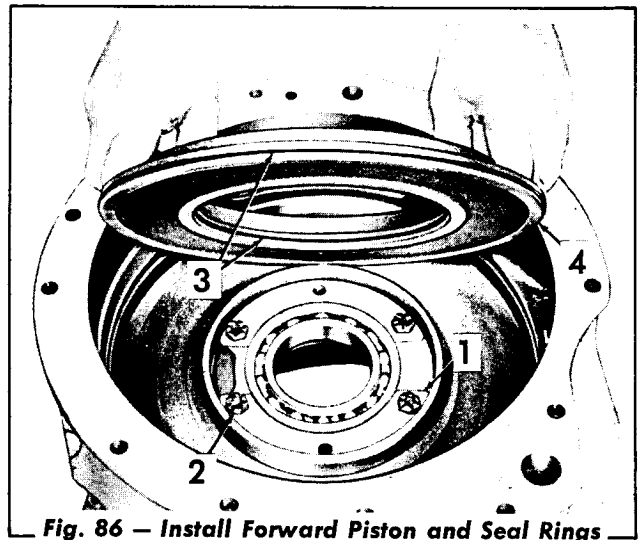

Fig. 86 — Install Forward Piston and Seal Rings
2. Secure both retainers (Fig. 86) with the self-locking capscrews. Oil the piston seal rings